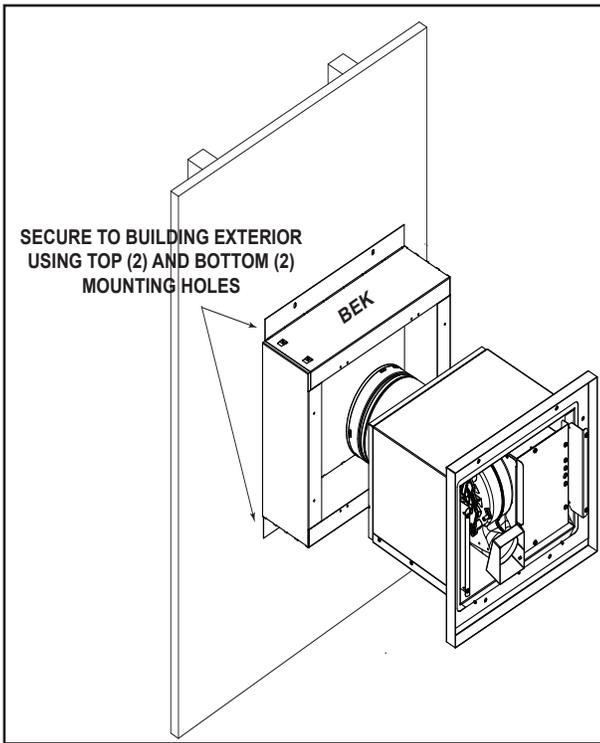
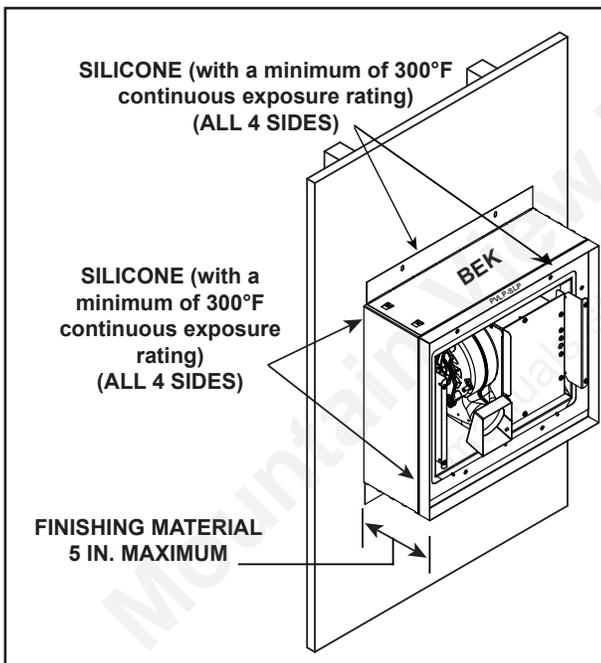

Figure 3.22 SLP-LPC Attached to LPC-BEK
Figure 3.23 Silicone Weather Sealing
19. Apply a bead of silicone (with a minimum of 300° F continuous exposure rating) around the entire metal flange of the PVLP-SLP. See Figure 3.24. Align with PVLP-BEK as shown in Figure 3.22. Ensure cap is level and square, then secure PVLP-SLP to PVLP-BEK as shown in Figure 3.23.
20. After the PVLP-SLP has been secured to the PVLP-BEK, silicone (with a minimum of 300° F continuous exposure rating) should be applied around outer edge of PVLP-BEK where it meets the building exterior. Silicone (with a minimum of 300° F continuous exposure rating) should also be applied where PVLP-SLP and PVLP-BEK meet, as shown in Figure 3.23.